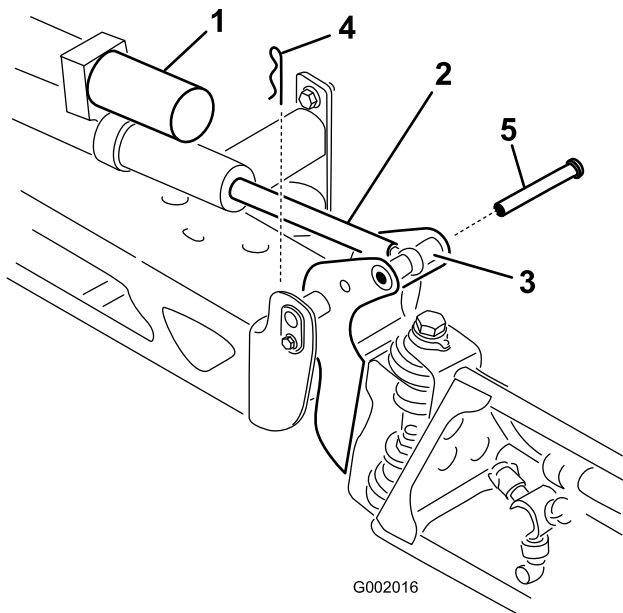

Figure 45
2. Remove the cotter pin from the pivot pin (Figure 45).
- Lift up on the boom and remove the pin (Figure 45). Slowly lower the boom to the ground.
- Raise the boom to align the pivot with the actuator rod. While holding the boom, insert the pin through both boom pivot and actuator rod (Figure 45).